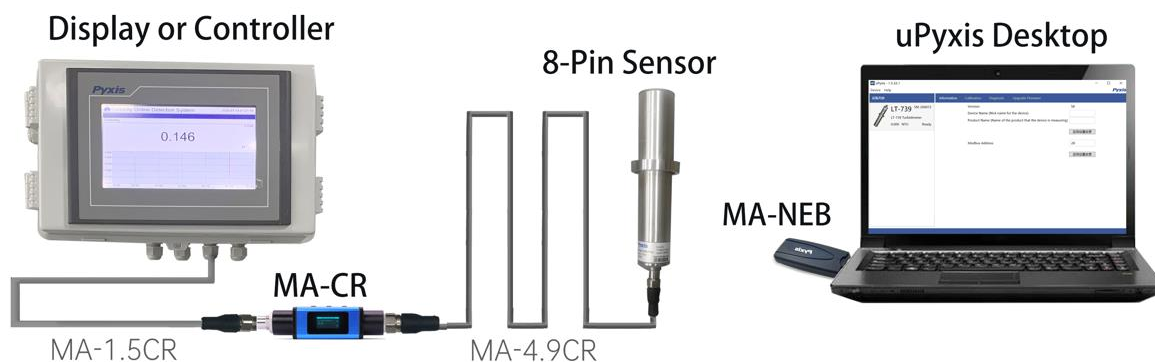

Figure 15. Bluetooth connection to LT-73X Series sensor with MA-CR, MA-NEB and uPyxis Desktop App.
1. Install the MA-CR Bluetooth Adapter on the 8Pin output cable from the LT-73X series as outlined on page 19 as seen in **Figure 15** (if powered by a controller).
4. On **uPyxis®** Desktop App, click Device → **Connect via USB-Bluetooth** (Figure 15).